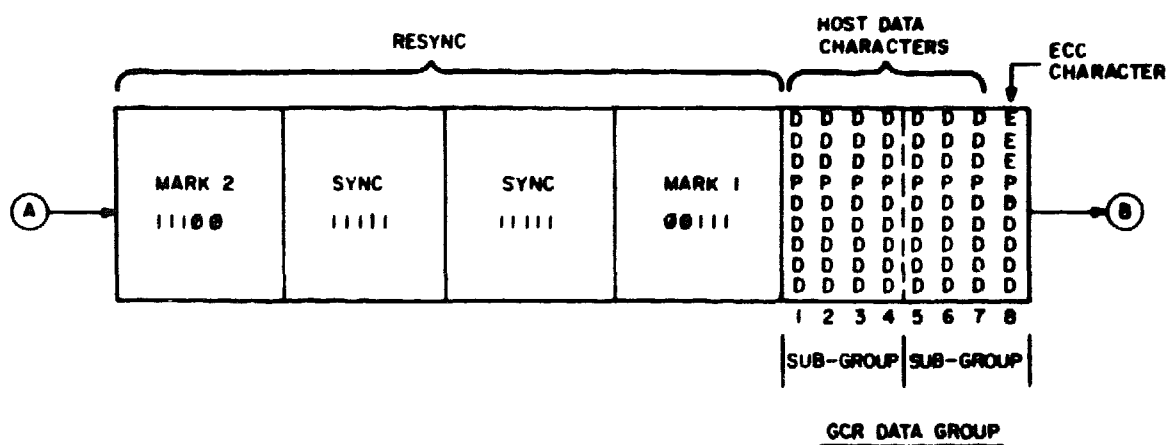

Figure 4-30B. DETAIL OF GCR TAPE FORMAT
- o RESYNC (See Figure 4-30B) - The RESYNC burst is written following the 158th data group in order to resynchronize the circuits and to clear dead-track and phase error pointers. The first element of the RESYNC burst is MARK 2, a signal which separates data from control subgroups. Next, two sync subgroups are written, followed by MARK 1, to separate the control signals from the data. After RESYNC, another series of data groups may be written.